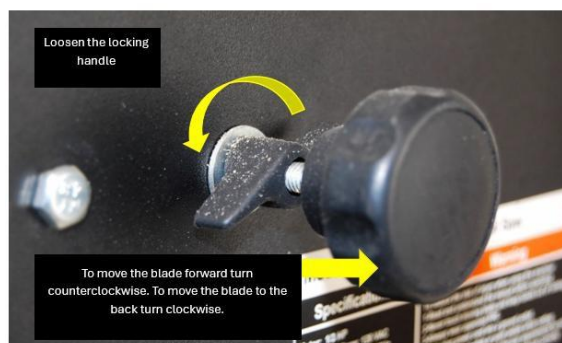

Figure 23: Blade tracking.
- 8- Reconnect the saw to the power supply and turn it on to see the position; if the position is not where it's supposed to be repeat all the steps above until it is. See figure 23.